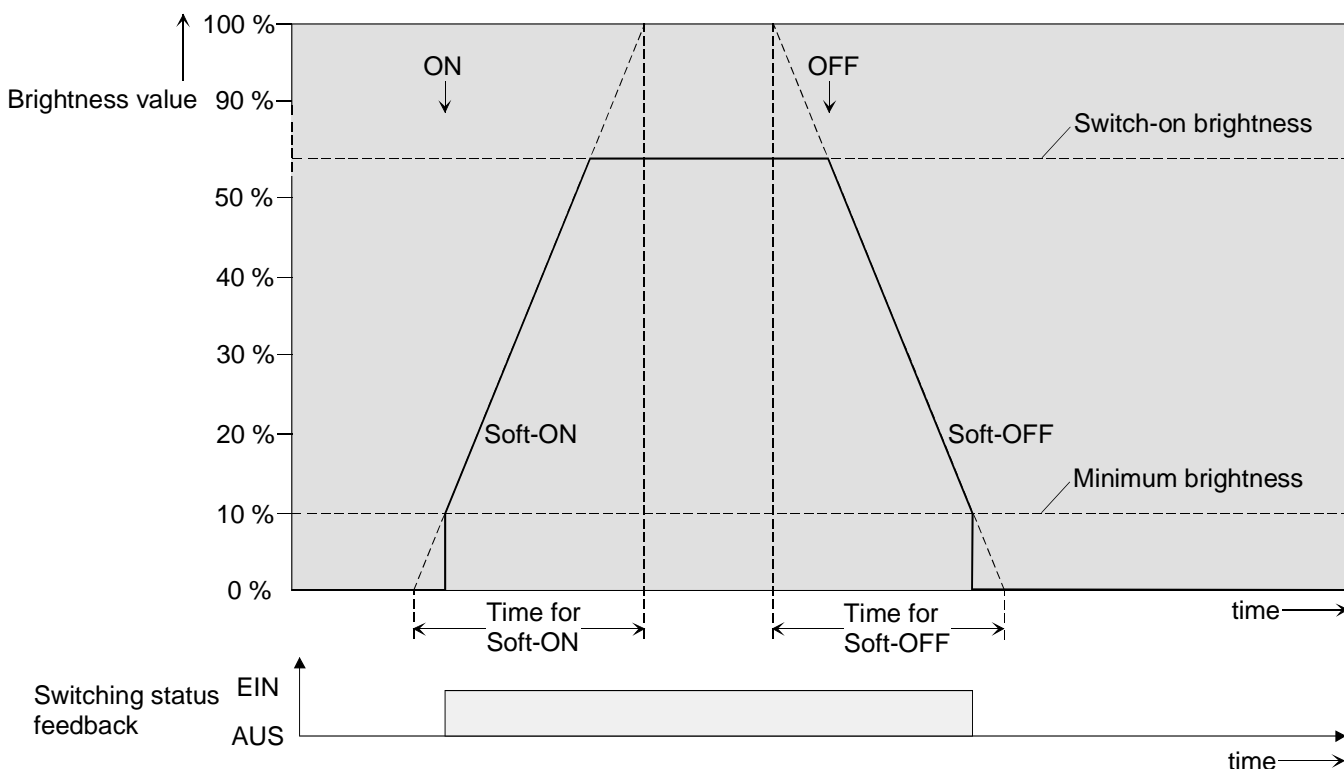

Figure 22: Dimming response of the Soft-ON/OFF functions
If a Soft-ON function is activated, dimming will be executed until the parameterized switch-on brightness has been reached. This will also be the case if the DALI group has been switched on to a brightness value that is smaller than the switch-on brightness value. If a Soft-OFF function is activated dimming will take place after receiving an OFF telegram until 0 % brightness is reached (cf. figure 22).
- ❗ The dimming of a Soft-ON function starts with the minimum brightness configured in the ETS plug-in. If a DALI group is switched off (brightness value = 0 %) and then switched on, the group will jump to the parameterized minimum brightness and will start the Soft-ON dimming with the switch-on brightness (cf. figure 22).